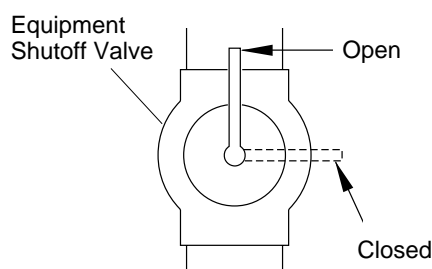

Figure 25 - Equipment shutoff valve
1. Close equipment shutoff valve (see Figure 25).
1. Open equipment shutoff valve (see Figure 25).